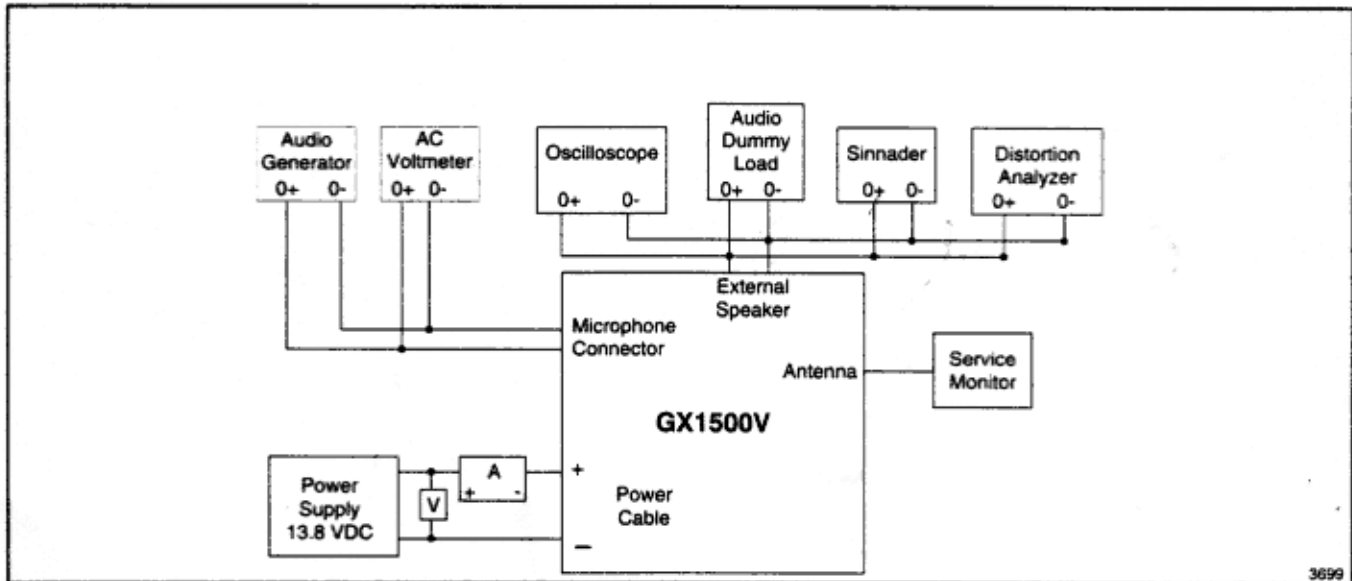

Figure 4-3. Receiver Test Setup
1. Set up the equipment as shown in Figure 4-3. Verify the voltage from the power supply is 13.8 VDC measured at the battery leads. Be sure that a suitable dummy load is connected to the antenna terminal.
1. Connect the test equipment as illustrated in Figure 4-3.
1. Maintain the test equipment setup as shown in Figure 4-3. If customer ordered frequencies have been programmed, use those frequencies for testing and perform the following tests on the center frequency except where noted. Otherwise, use the factory programmed frequencies in Table 4-1 for GX1500VAA and Table 4-2 for GX1500VAB.